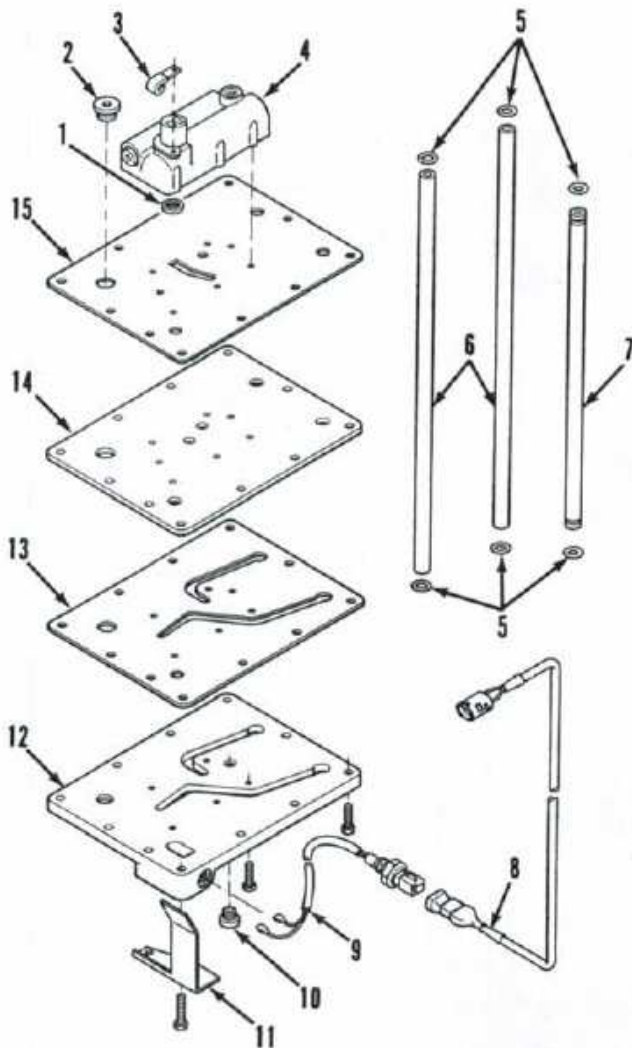
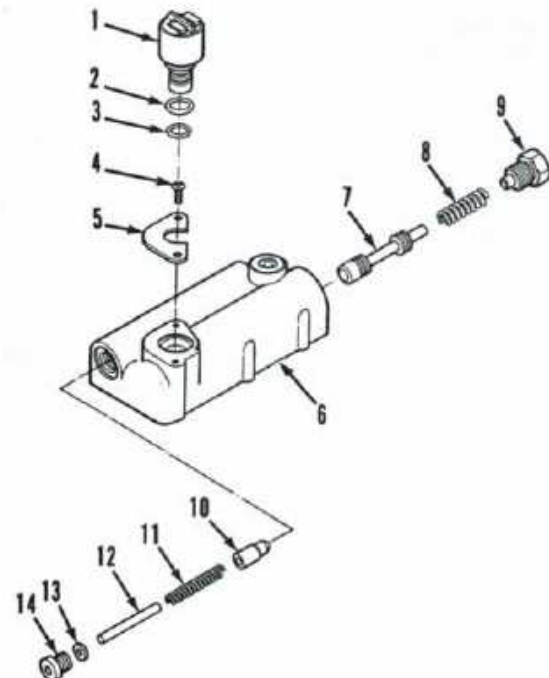
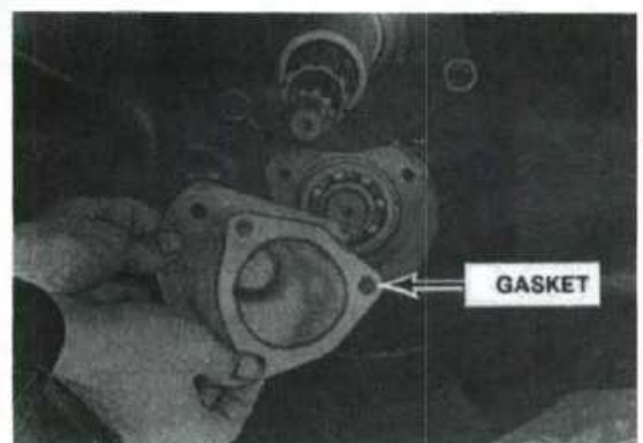
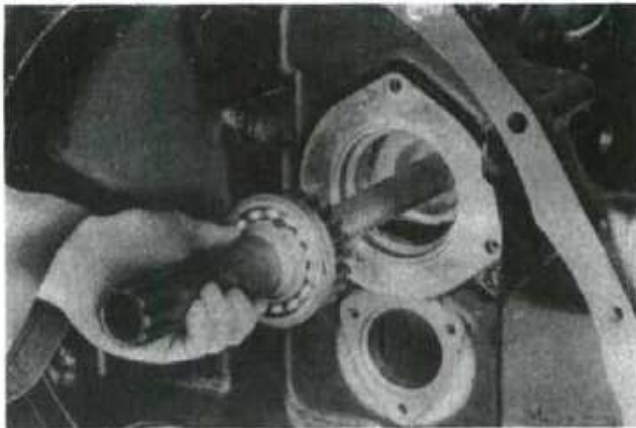

Fig. 86—View of Power Shift regulator (control) valve and bottom core plate with relative components removed from speed transmission gearbox.
Fig. 87—Exploded view of regulator (control) valve and solenoid.
Fig. 90—Unbolt and remove pto driven shaft end cover and metal gasket.
Fig. 91—With clutch release sleeve carrier removed, withdraw pto drive shaft and gear.
103. R&R AND OVERHAUL. The regulator (control) valve (4—Fig. 86) and bottom core plate (12) can be removed from tractor without removing the speed gearbox. All other service on the Power Shift unit requires removal of complete speed gearbox.
unbolt and remove solenoid wiring shield (11—Fig. 86). Disconnect the Power Shift cable (8) from solenoid cable (9) at connector. Unbolt bottom core plate (12) and remove from speed gearbox.
Disconnect wiring from solenoid, then unscrew union and remove wiring and union from core plate (12). Remove screws (4—Fig. 87), clamp (5) and solenoid (1) with "O" rings (2 and 3). Remove regulator valve end cap (14), washer (13), pin (12), spring (11) and valve (10). Remove plug (9), spring (8) and spool (7). Unbolt and remove regulator valve body (6), then remove filter screen (1—Fig. 86) from bottom of valve body. Remove gasket (15), separator plate (14) and
Clean and inspect all parts for excessive wear or other damage and renew as necessary. Body (6—Fig. 87), spool (7) and plug (9) are not serviced separately. When reassembling, use new "O" rings (2 and 3) and new gaskets (13 and 15—Fig. 86) and "O" rings (5) and reverse disassembly procedures.
Unbolt and remove bottom core plate (12—Fig. 86) and regulator valve (4) assembly, then remove oil inlet tube (7). Remove clutch release bearing and sleeve. Drive roll pins from release fork, withdraw release shaft and remove fork. Unbolt and remove pto driven shaft end cover and metal gasket as shown in Fig. 90. Remove snap ring from front end of driven shaft. Working through bottom core plate opening, remove snap ring from pto driven gear. Drive the driven shaft rearward out of bearing and remove bearing. Withdraw the shaft and have helper remove gear as shaft is removed. Unbolt and remove clutch release sleeve carrier, then withdraw pto drive shaft and gear as shown in Fig. 91. Remove snap ring from front end of countershaft and remove countershaft gear. Remove the two speed Power Shift unit from front of speed gearbox. See Fig. 92.